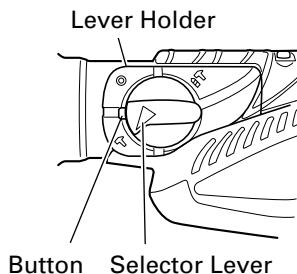

Fig. 7
(1) Switching to “hammering”
- (b) Align ▲ of the selector lever and T of the lever holder as illustrated in Fig. 7.